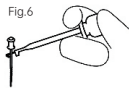

Fig.6
- 7.2.1. Grip the file inserted in the root canal with the file clip. Grip the upper part (near the handle) of the file's metallic part. (Fig.6)